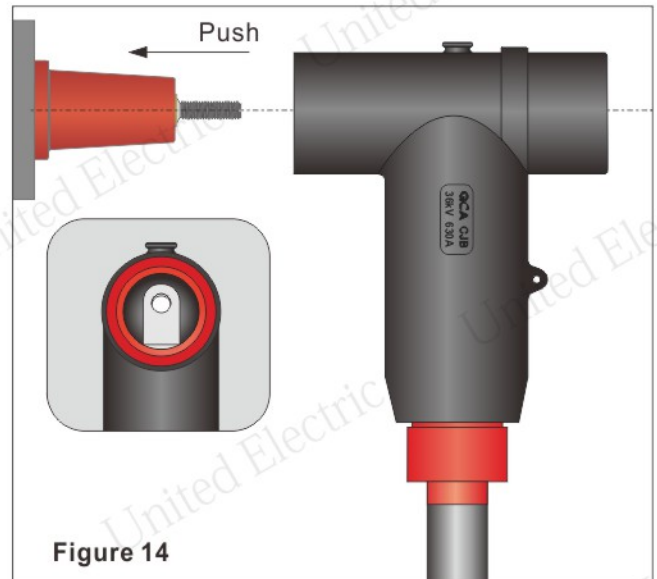

Figure 14
- Align the eye of the cable lug with the threaded pin and push the screened connector CJB30-630 onto the bushing. (Figure 14)